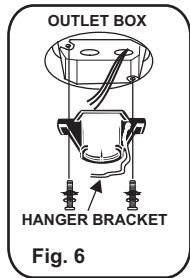

Fig. 6
**Step 3.** Secure the Hanger Bracket to the ceiling outlet box using the screws provided with your outlet box in conjunction with the lock-washers provided with the fan. (Fig. 6)